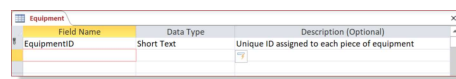

Figure 2-20 Add fields into the *Equipment* table
- d. Type **Unique ID assigned to each piece of equipment** in the *Description* property box. Press **Tab** to move to the next row (Figure 2-20).